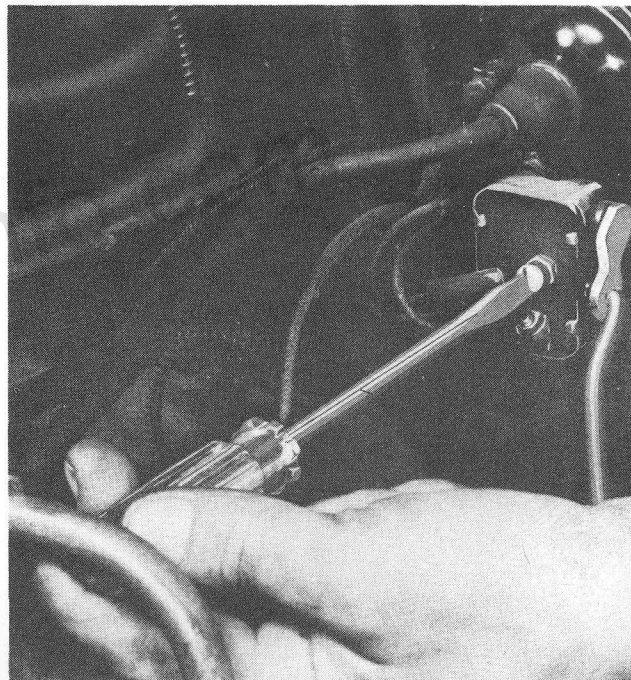

Figure 13—Adjusting 20th Series Accelerator Switch To Open Contacts just as Lost Motion Is Taken Up
b. Slowly depress the accelerator pedal. The light should go out just as the lost motion in the accelerator linkage is taken up. If the light does not burn when the accelerator pedal is released, turn the adjusting screw counterclockwise (Fig. 13) until the light burns. Slowly depress the accelerator pedal. The light should go out just as the lost motion in the accelerator linkage is taken up.